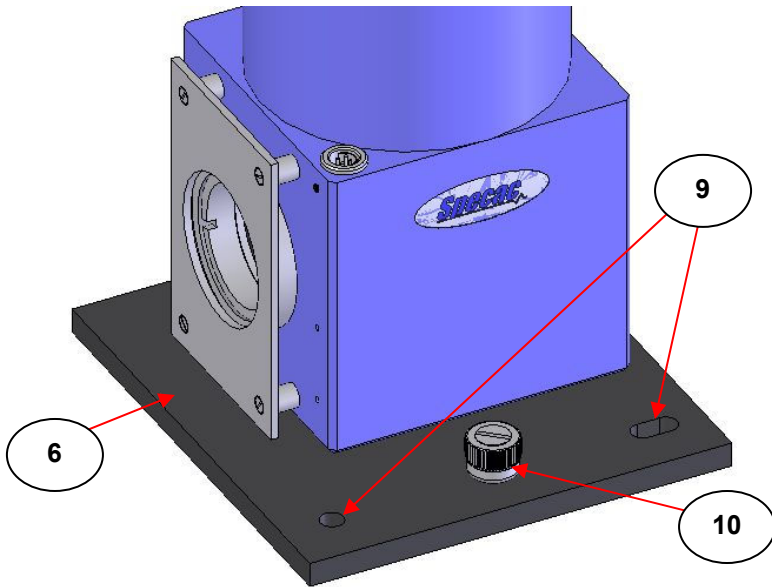

Fig 4. GS21525 Detail of Benchmark™ Adapter Plate Location Holes and Central Thumbscrew
If the VT Cell Accessory is to be installed into the spectrometer using a Benchmark™ baseplate, the two location holes (slot and round – 9) on the adapter plate (6) are placed over the support pillars of the Benchmark™ baseplate and the VT Cell Assembly is then secured to the Benchmark™ baseplate via the middle pillar using the central thumbscrew (10). (See Fig 4.) After installation, the various connections i.e. power cables, thermocouple and vacuum lines are then made to and from the VT Cell Accessory.